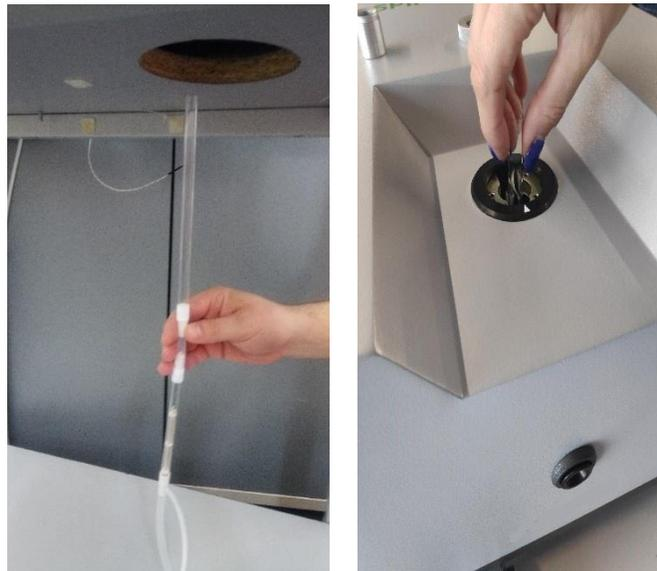

Figure 5
- Check the spectrometer position on the table. The hole into the resonator should be directly under the hole on the table. Insert the heating system from the bottom part of the table. Please do it very carefully. Take the glass part of the heating system from the top of spectrometer (fig.5);